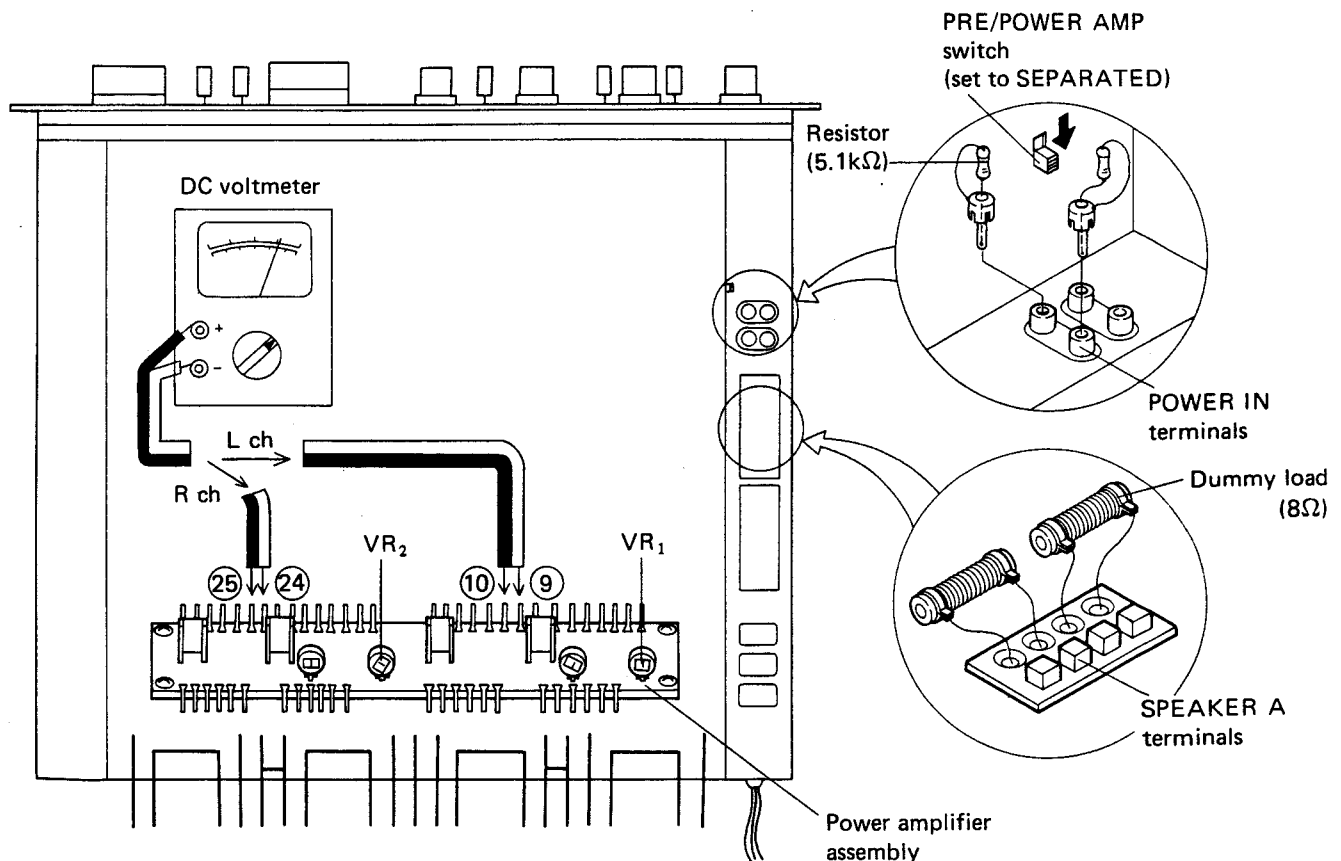

Fig. 16
- Fit $5.1\text{k}\Omega$ resistors to the POWER IN terminals as shown in Fig. 16.
- Connect 8Ω dummy loads between the SPEAKER A terminals as shown in Fig. 16.